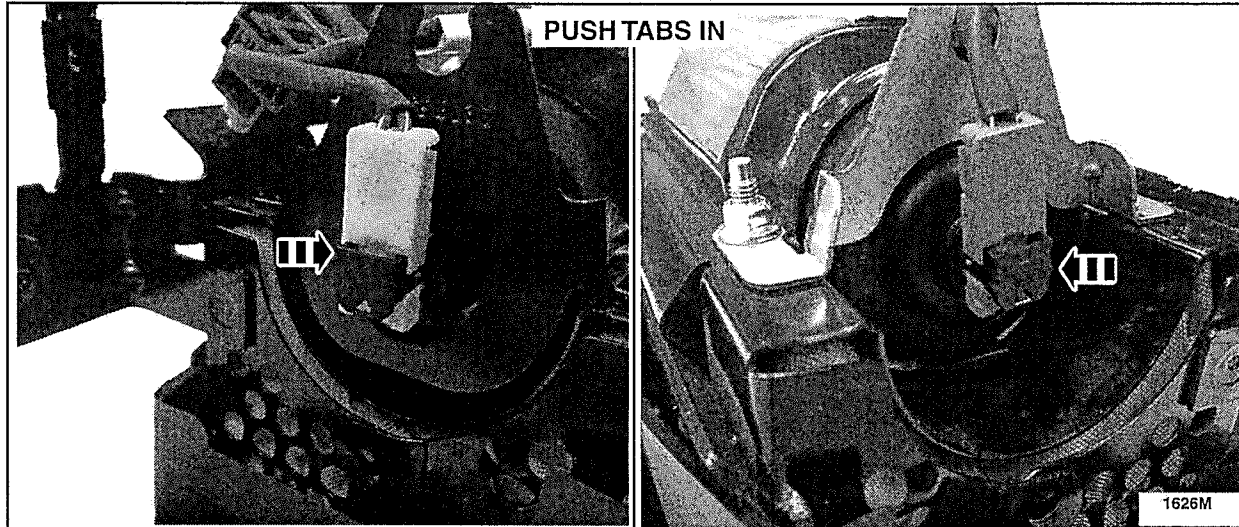

FIGURE 10
- Align the T-shape index on both the wiring harness electrical connector and the airbag inflator. Install the *new* wiring harness onto the passenger airbag module and connect to both sides of the inflator and fully seat the black tabs. See Figure 10.